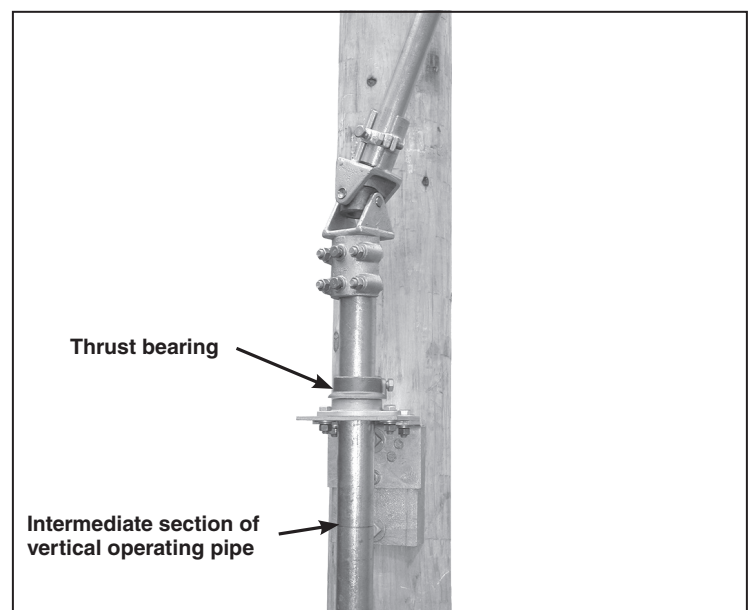

Figure 24. Install the intermediate section of the vertical operating pipe.
STEP 23. Pass the next section of vertical operating pipe up through the guide bearing and then through the thrust bearing. The thrust bearing will rest on the guide bearing and support the operating pipe. See Figure 24.